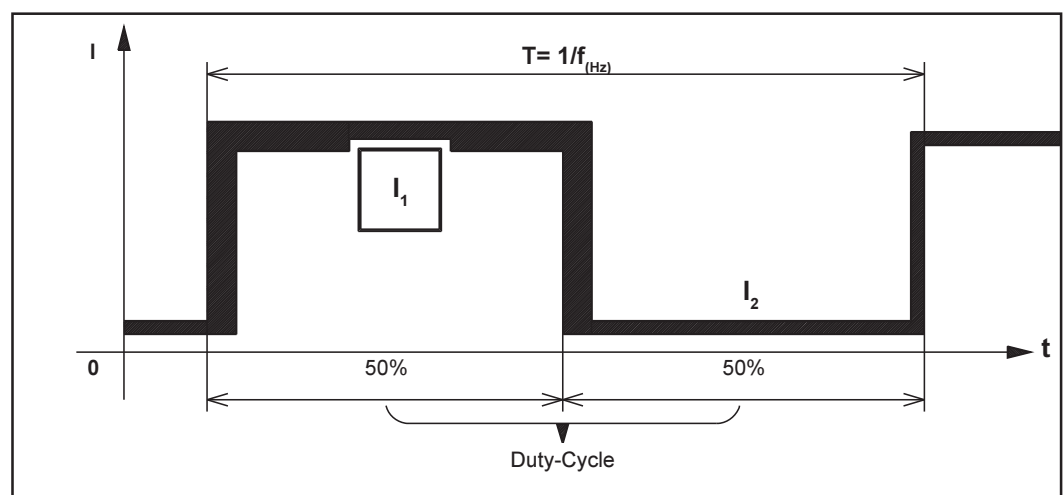

Fig. 23 Setting-example Duty-Cycle in scale position "50"
□ Duty cycle dial (26) is in scale position 10,
Duty Cycle dial (26) is in scale position 50, (see Fig.23)
□ Duty cycle dial (26) is in scale position 90,